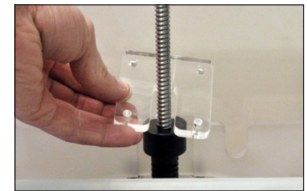

Fig. 9
9. Using the 4 x 100 hex screwdriver (located in tool kit), remove plexiglass Z-Axis guard by unbolting the 4 screws holding it in place and remove plexiglass and bolts. (Fig. 9)